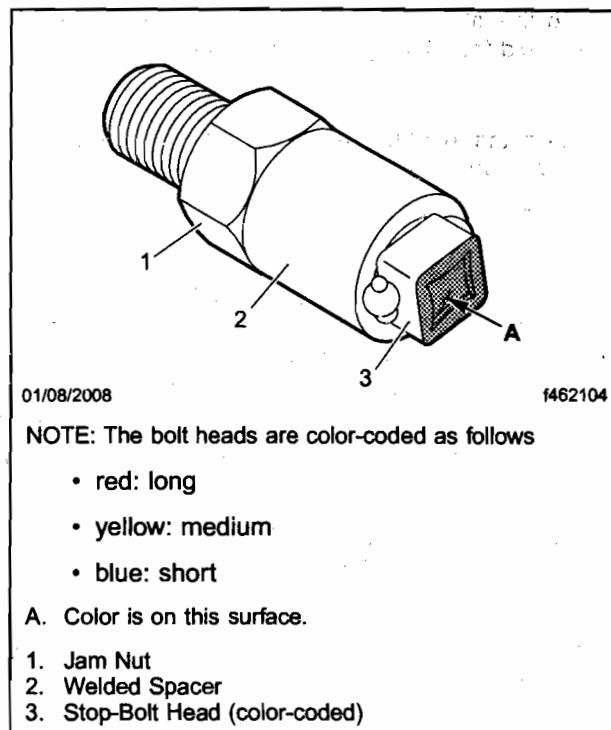

Fig. 3, New Axle-Stop Bolt (short bolt shown)
7. Take the longest of the new axle-stop bolts from the kit (*red* bolt heads) and, if not already done, hand tighten the jam nut against the welded spacer on each stop bolt (see Fig. 3).
13. Take the longest of the new axle-stop bolts from the kit (*red* bolt heads) and, if not already done, hand tighten the jam nut against the welded spacer on each stop bolt (see Fig. 3).